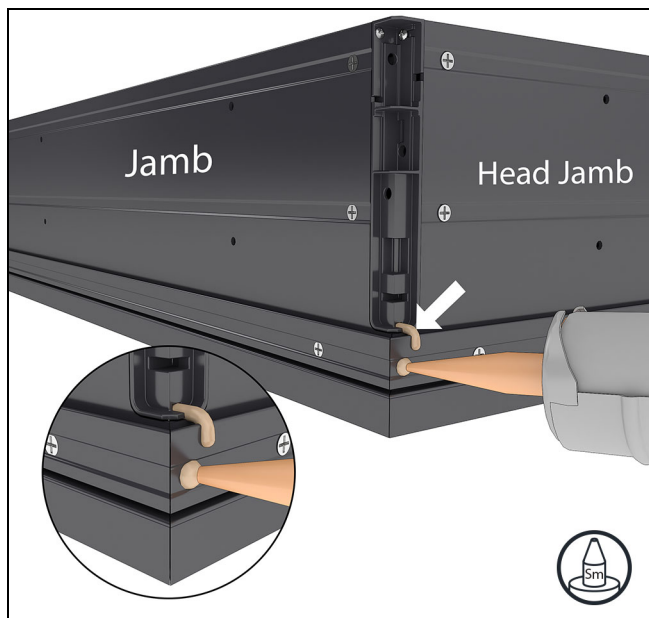
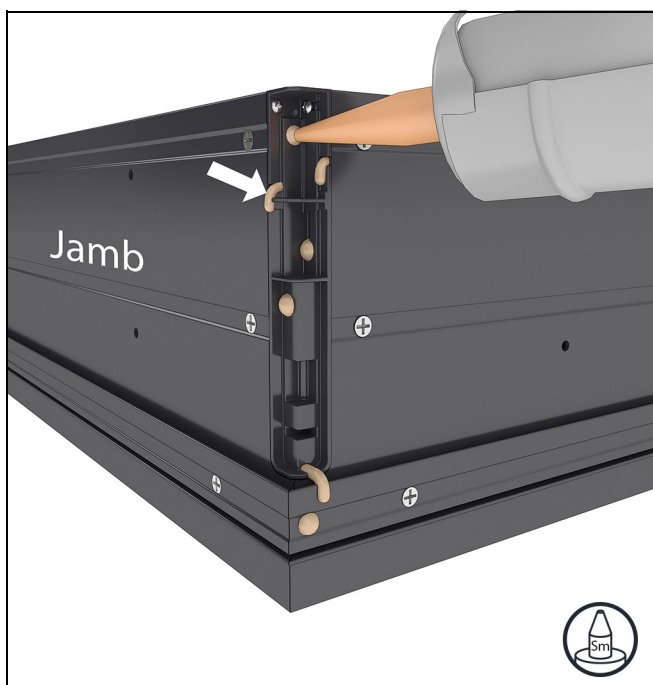

Figure 32 Start sealing at the exterior
Figure 35
3. Inject the **head jamb** corner keys with sealant (provided). There are four injection holes and three squeeze out holes. Start at the exterior-most injection hole and inject sealant until you see squeeze-out in the corresponding port. Work your way to the interior. See Figure 32 through Figure 35.